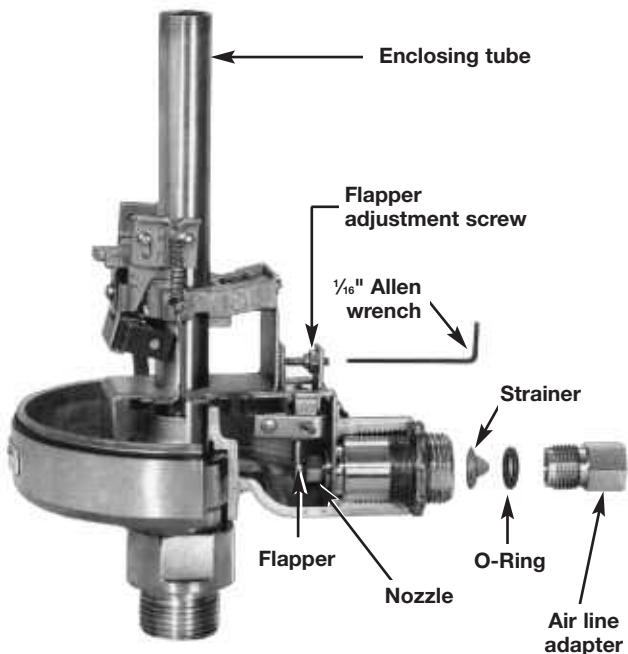

Figure 6
1. Unscrew and remove the adapter. Refer to Figure 6.
5. Reassemble the o-ring, strainer, and air line adapter; insert into nozzle. Refer to Figure 6.